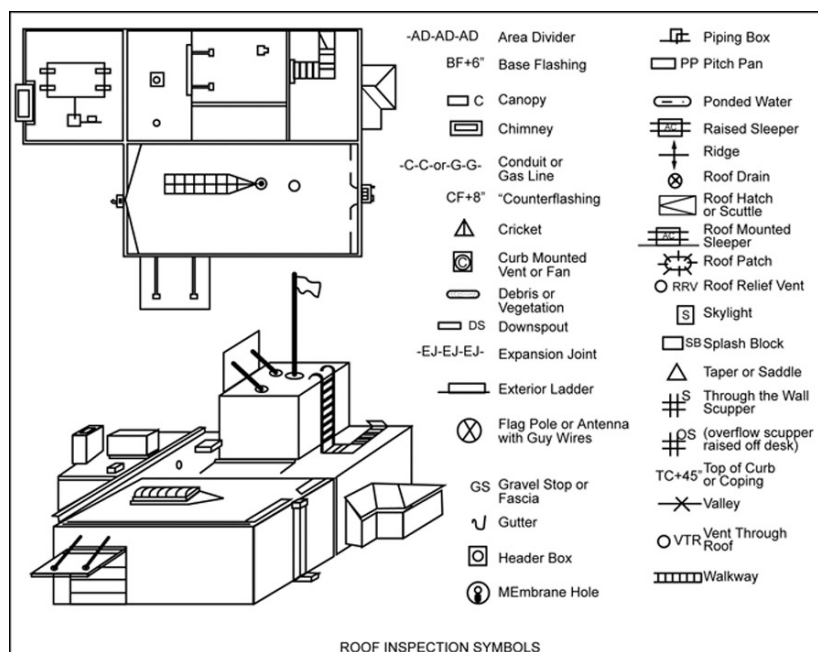

Figure 1-5. Roof inspection symbols.
7. Plot each deficiency on the roof plan and submit an AF Form 332, *BCE Work Request*. Figure 1-5 shows the standard roofing symbols.